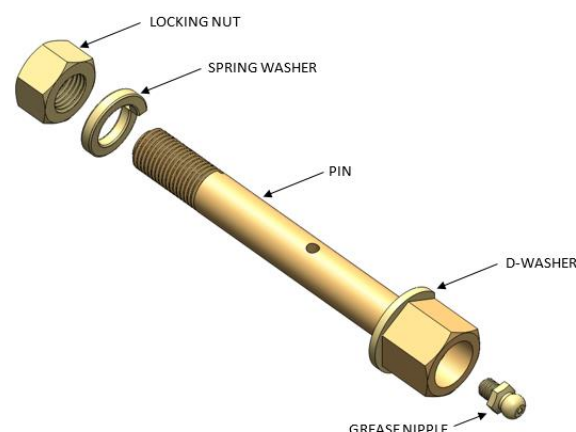
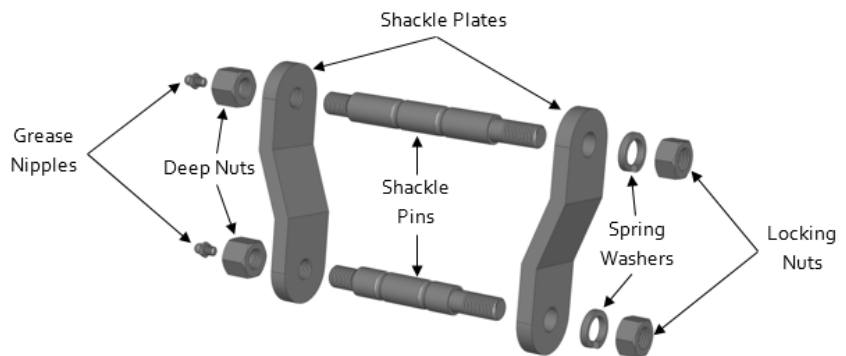

Figure 1: Diagram of fixed pin
Figure 3: Diagram of swing shackle
- Screw the grease nipples into the recessed end of the fixed pins and firmly tighten (see figure 1). **DO NOT** over tighten grease nipple as this will damage the thread;
- Place the D-washer on the shank of the pin as per figure 1;
- Screw and tighten the shackle pins into the threaded holes in the shackle plates as per figure 3;
- Over the grease nipples, screw the deep nuts and only lightly finger tighten (figure 3);
- Re-install leaf springs as per factory service manual with new SuperPro swing shackle and fixed pin hardware and assemble as per figure 1 and figure 3 – do not fully tighten nuts;